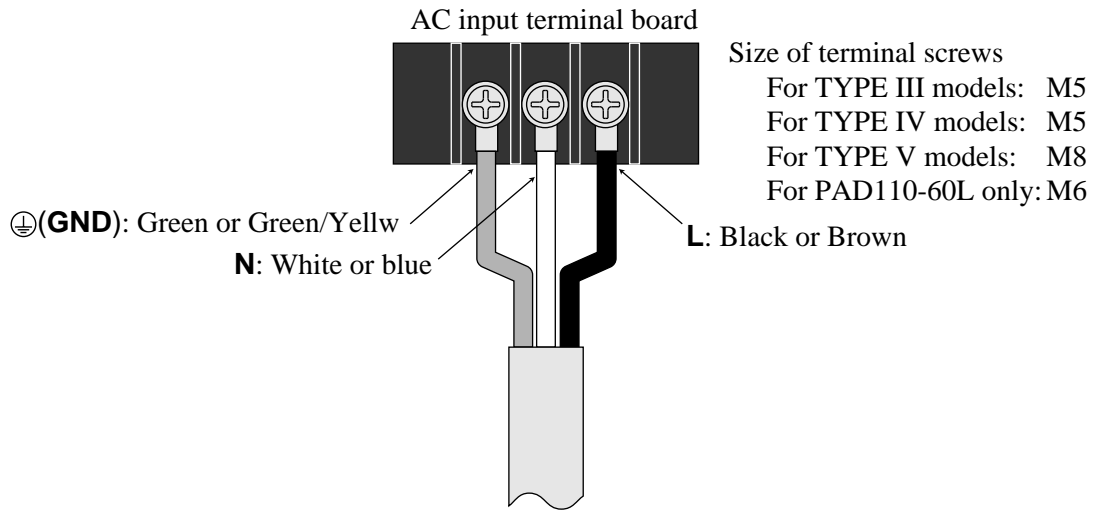

Fig. 1-6 Connection of AC input terminal board
1. Connect the supplied AC power cord to the AC input terminal board as shown in Fig. 1-6.